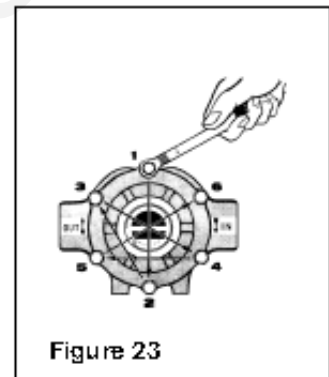

Figure 23
3. Turn pump over, line up bolt holes and replace assembly bolts. Alternately and evenly tighten the bolts as shown (Figure 23). **NOTE:** After bolts have been tightened, check to see if rotor is centered in pump case. Try to turn the pump shaft, using a crescent wrench on the shaft as a lever.